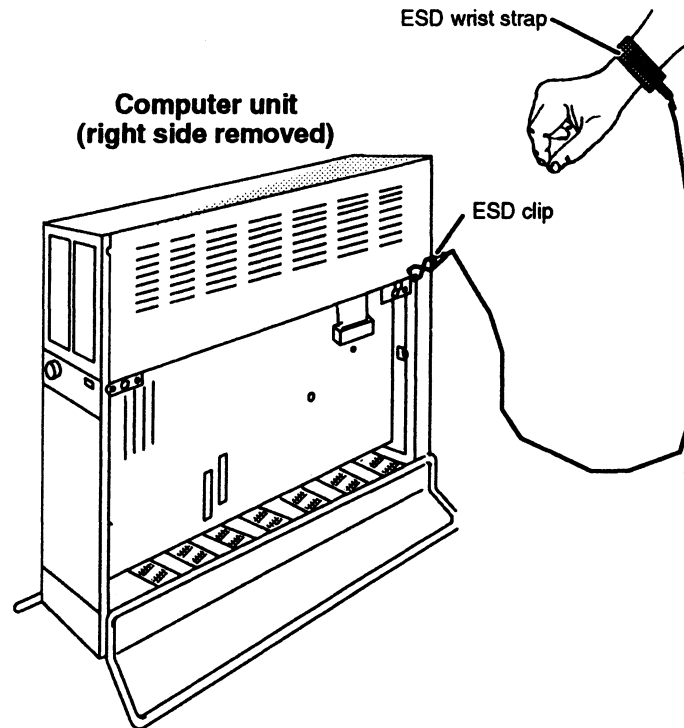

Figure 5-7 Attaching the ESD Wrist Strap and Clip
5. Put on the ESD wrist strap and attach the ESD clip to any unpainted metal surface of the chassis as shown in Figure 5-7.